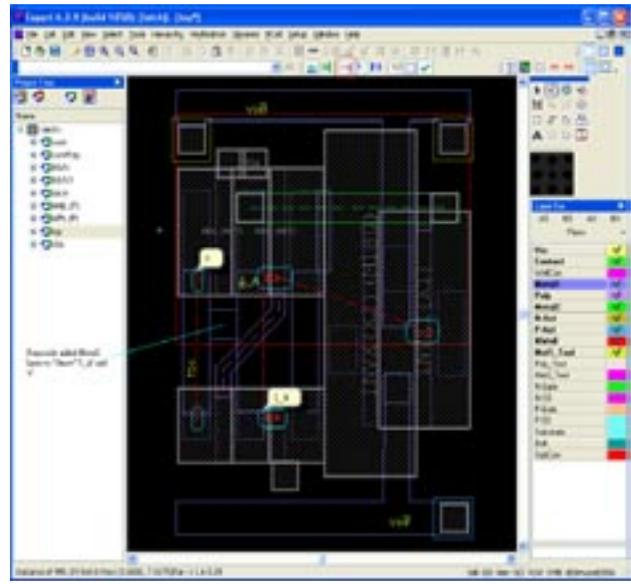

Figure 9. Edited Layout view after re-extraction to show 'Shorted Nets Only'.
- Add a box in Metal1 on the left to intentionally short nets 'X' and '1_A' as seen in Figure 9. After 'Reextract' or 'Update Connectivity', flight lines for both nets 'X' and '1_A' displayed in red.